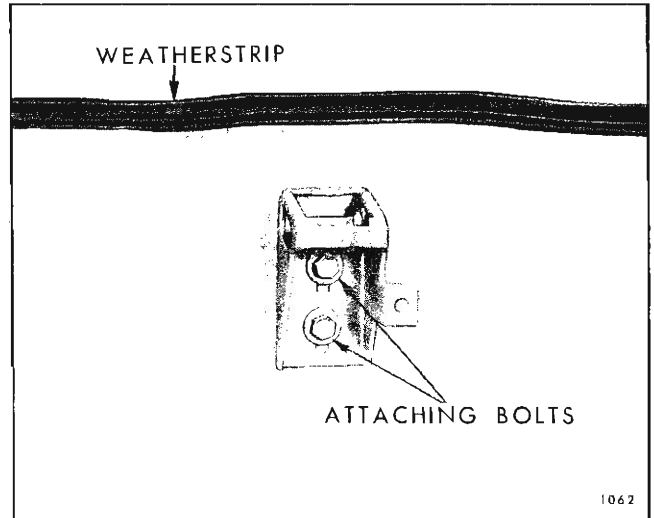

Fig. 5F9—Engine Compartment Lid Latch Striker
2. Apply (brush) a continuous coat of weatherstrip cement (neoprene type) along bottom and outer surface of weatherstrip gutter adhering to exceptions noted in Figure 5F10.